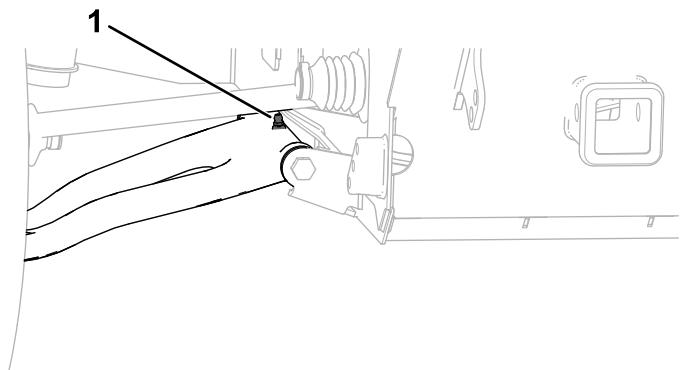

Figure 92
- **Front control arm pivots (2); refer to Figure 92**